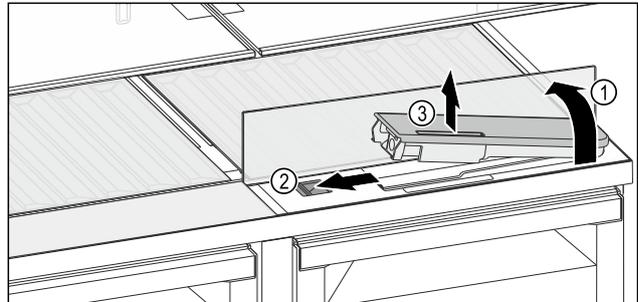

Fig. 140
- ▶ Lift the glass panel and fold towards the rear until it clicks into place Fig. 140 (1).
- ▶ Slide the slider Fig. 140 (2) to the left.
- ▶ Remove the water tank Fig. 140 (3).